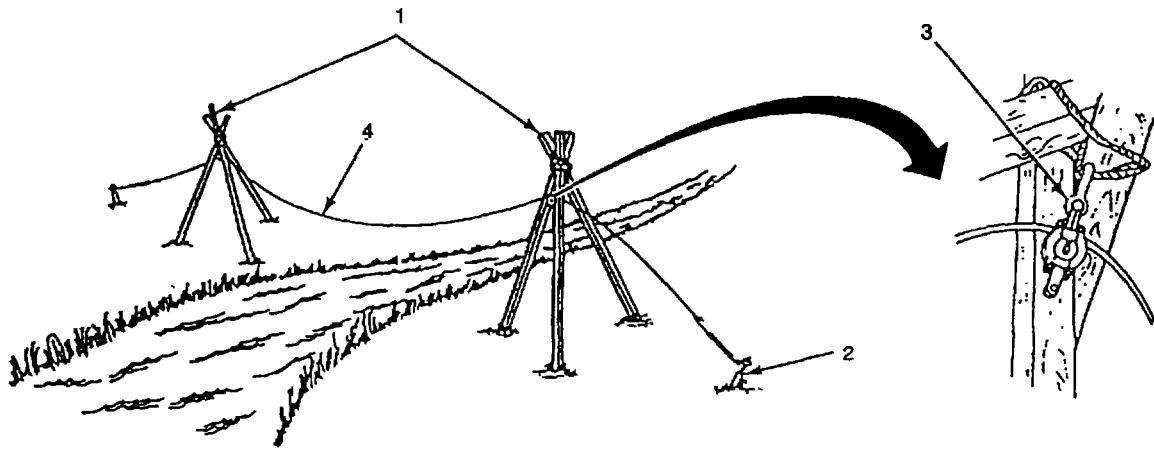

Figure 2-10. Suspension Kit
- (1) Using available materials, construct a tripod (1, Figure 2-10) on either side of stream, gap, or other obstruction to be spanned. Tripods should be strong and high enough to support hoseline.